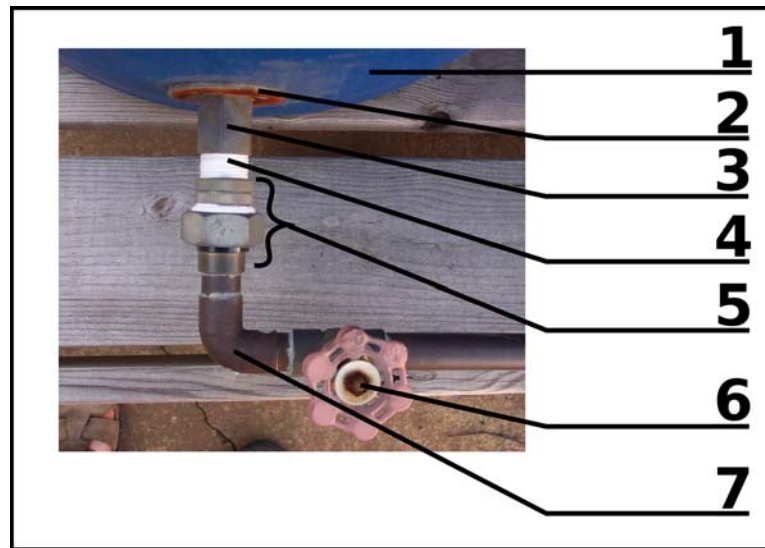

Figure 7: Detail of final plumbing showing different connector fitting to barrel
- 5 Female Threaded Fitting (See Figure 7 for final fitting design/usage)